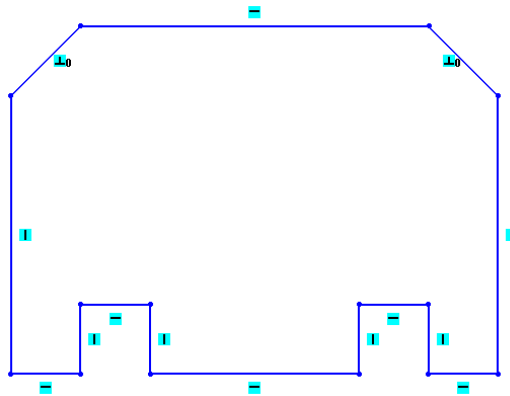

Figure 1-50 Outer loop of the sketch
- c. Draw the sketch of the model using the **Line** and **Circle** tools, refer to Figures 1-50 through 1-52.
22. Choose the **Zoom to Fit** button from the **View** toolbar to fit the current sketch on the screen. The outer loop of the sketch is completed and is shown in Figure 1-50. Note that in this figure, the display of grid is temporarily turned off for better visibility. To do so, clear the **Display grid** check box from the **Grid** area of the **Document Properties - Grid/Snap** dialog box.